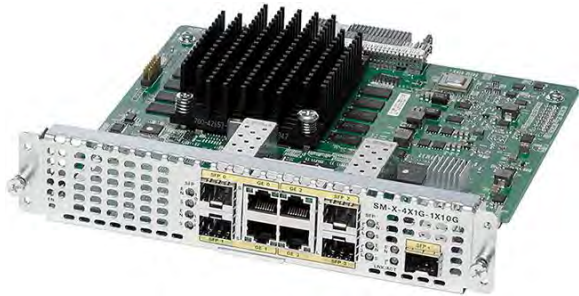

Figure 3.
- Cisco 4-Port High-Density Gigabit or 1-Port 10 Gigabit Ethernet WAN Service Module (SM-X-4X1G-1X10G) (Figure 3)